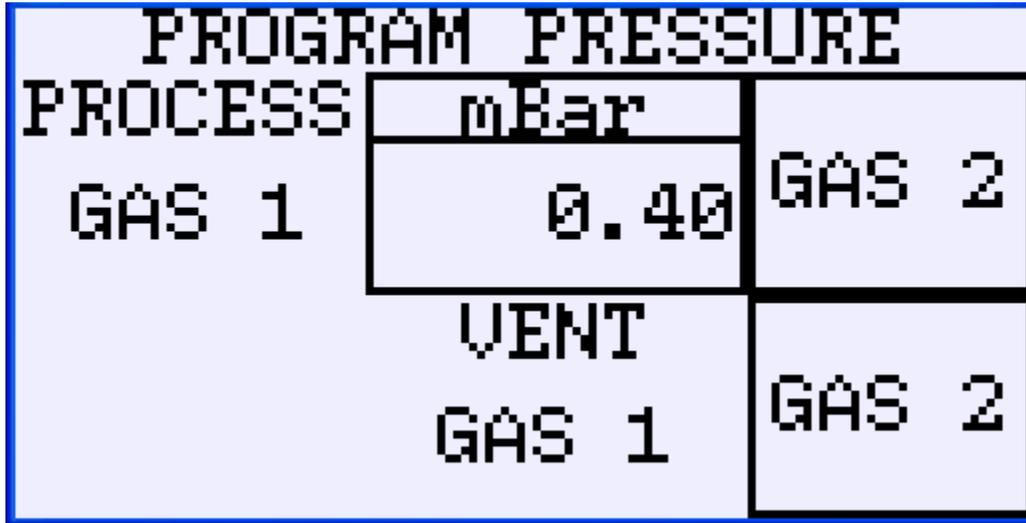

Figure 7
1. Press the "Prog" function button. This takes you to the **PROGRAM PRESSURE** screen (Figure 7). This is the first of four auto run program screens.
29. Press the **Auto** function button to return to the **AUTO RUN** screen to run your new program or press the **Next** function, to return to the **PROGRAM PRESSURE** screen (Figure 7). This is the first of four auto run program screens.